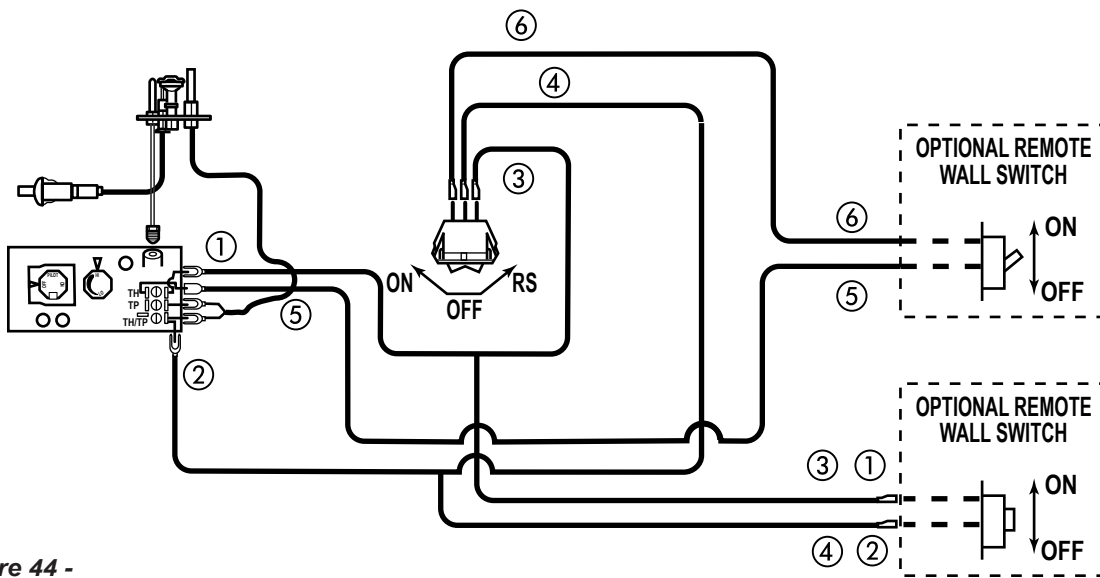

Figure 44 -
A remote wall switch and up to fifteen (15) feet of 18 Ga. wire may be used with this appliance. Attach the wall switch in a junction box at the desired location on the wall. *Figure 44*. Do not extend beyond the wall switch wire length provided.